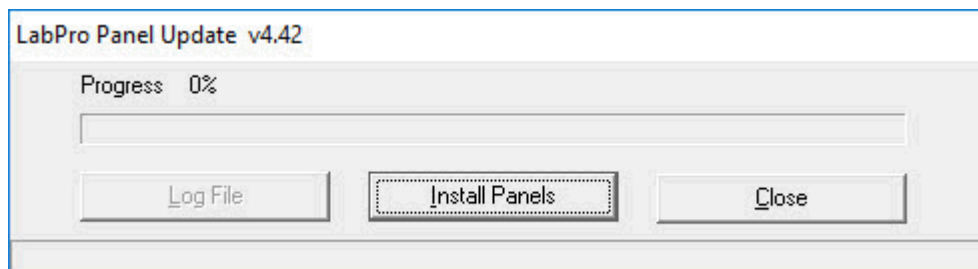

Figure 7: Install Panels
3. Click **Install Panels** (See Figure 7).